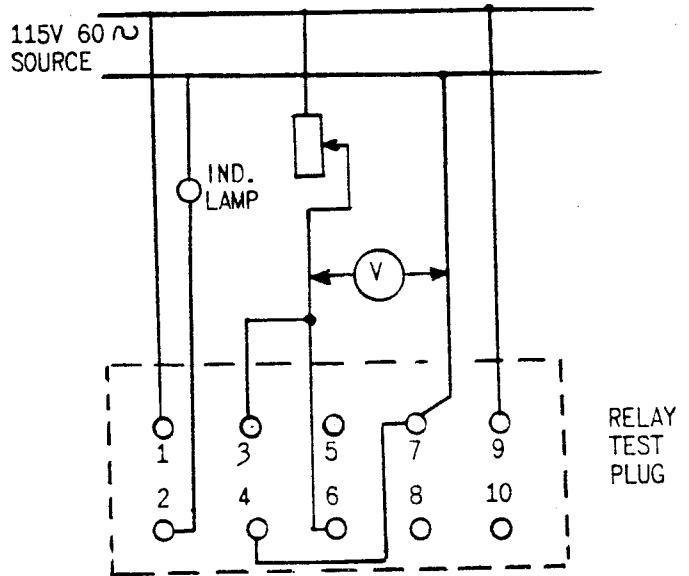

Fig. 8B (0165A7737-0) Test Connections for Relay Type IJS52E
4. With a 115 volt, 60 cycle source and connection shown in Fig. 8B, check that the telephone-type units pickup between 35 and 52 volts and that these units drop out between 17 and 25 volts.
3. Using connections in Fig. 8B check the pick up and drop out of the telephone-type undervoltage units (27V and 27L).